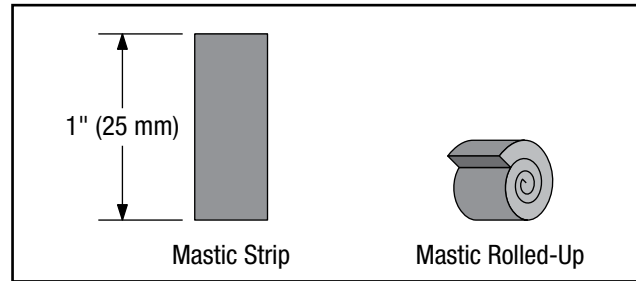
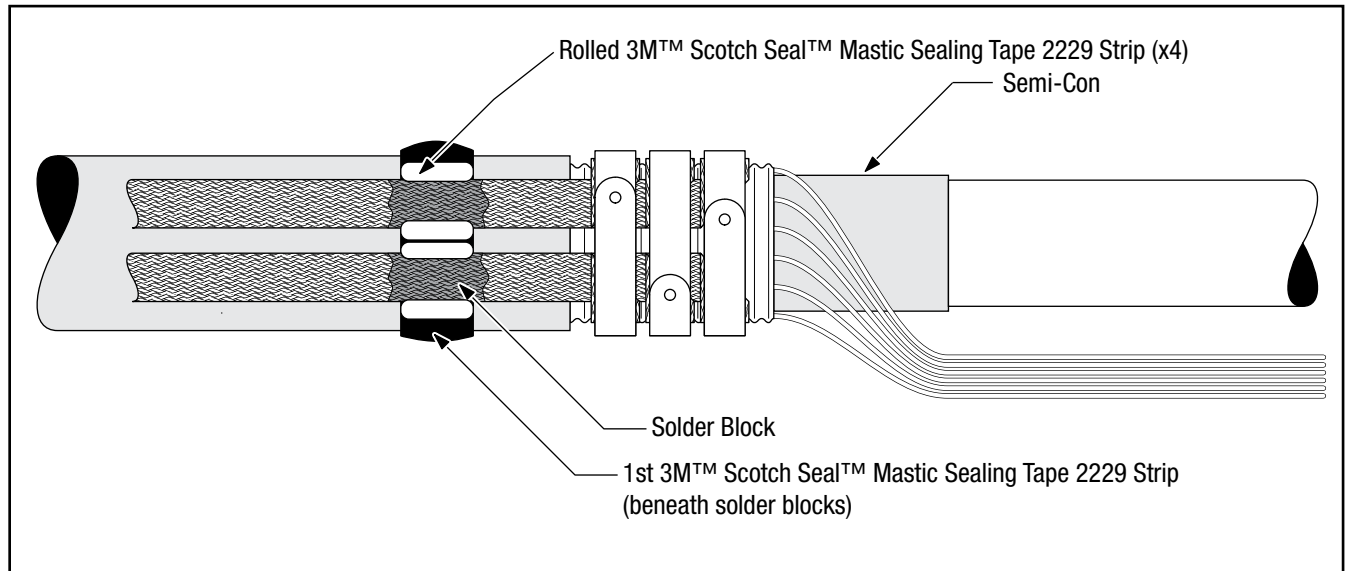

Figure 6
Figure 7
- 2.5 Cut four 1" (25 mm) lengths of 1" (25 mm) wide 3M™ Scotch-Seal™ Mastic Sealing Tape 2229. Remove the release liner and roll each mastic strip into a small roll. (*Figure 6*) Press the mastic rolls into place on either side of the ground braid solder blocks. (*Figure 7*)